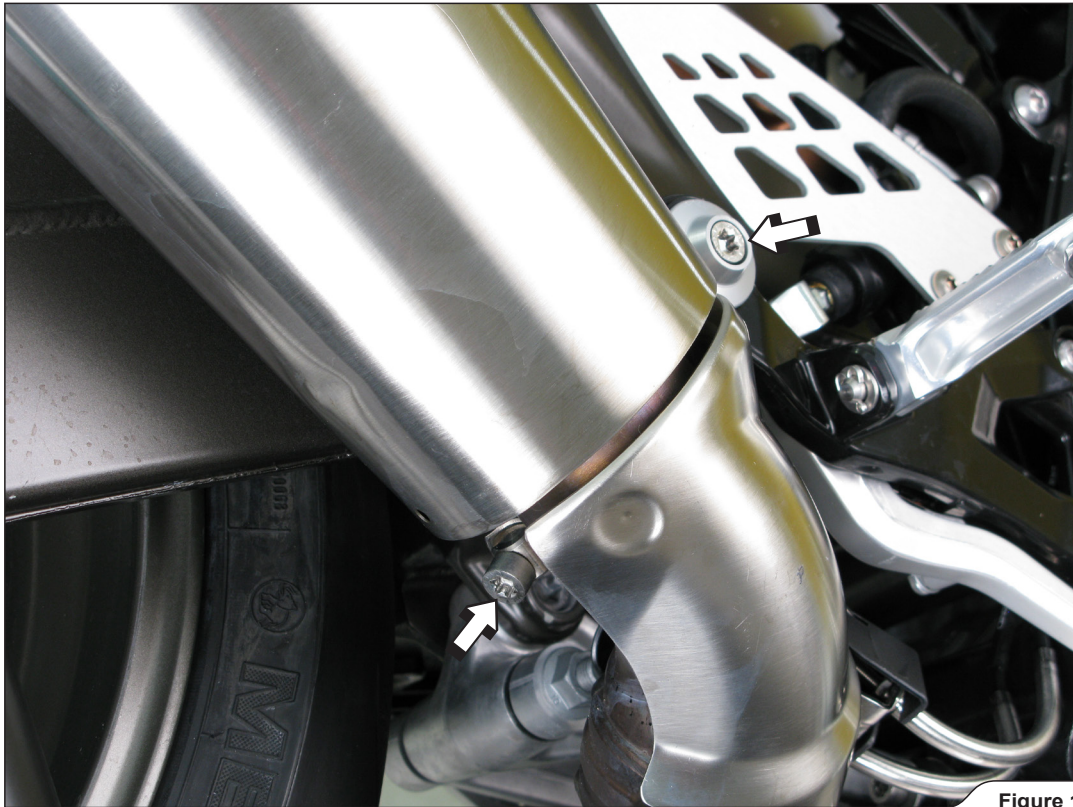

Figure 1
2. Unscrew the marked bolts from the muffler hanging bracket and the metal clamp at the muffler-collector connection (**Figure 1**). Remove the muffler together with heatshield.